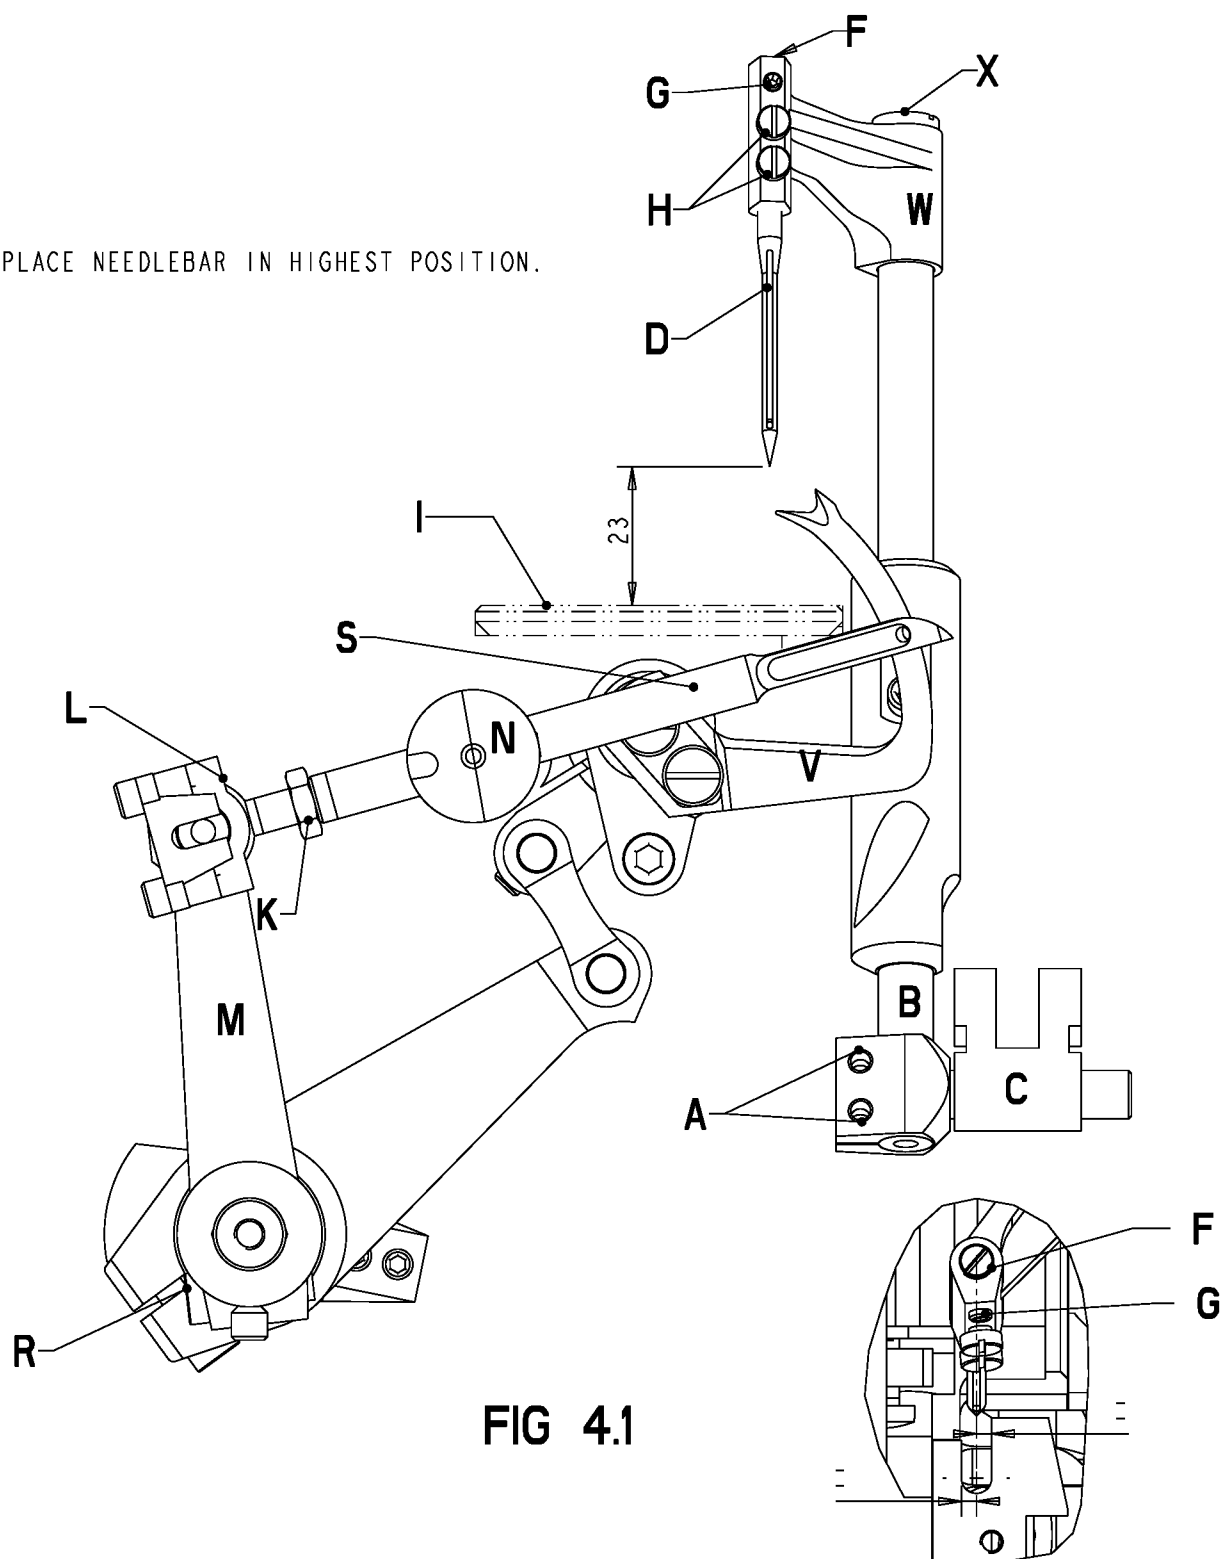

FIG 4.1
- Loosen the screw **H** (see figure 4.1) and remove the needle.
With the needle having reached the top of its stroke, distance between the needle point and the needle plate must be exactly 23 mm (see figure 4.1).
- Loosen the screws **H** first while holding the needles by hand (see figure 4.1).
- Loosen the screws **A** and remove the worn out needle bar **B** (figure 4.1) from clamp **C**.